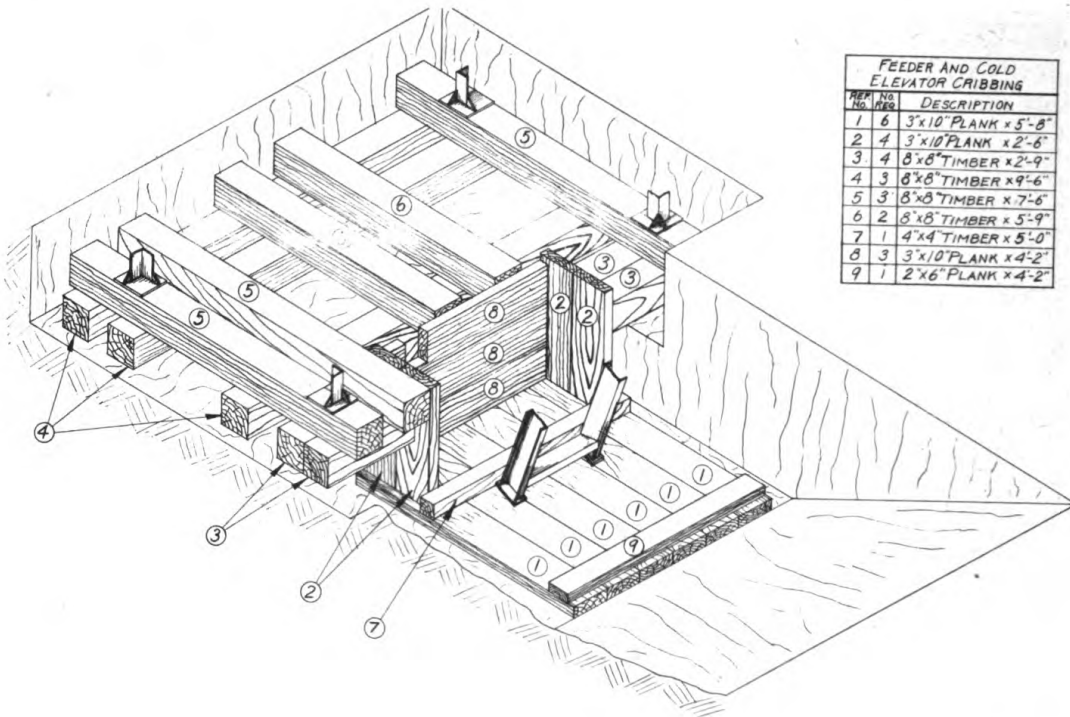
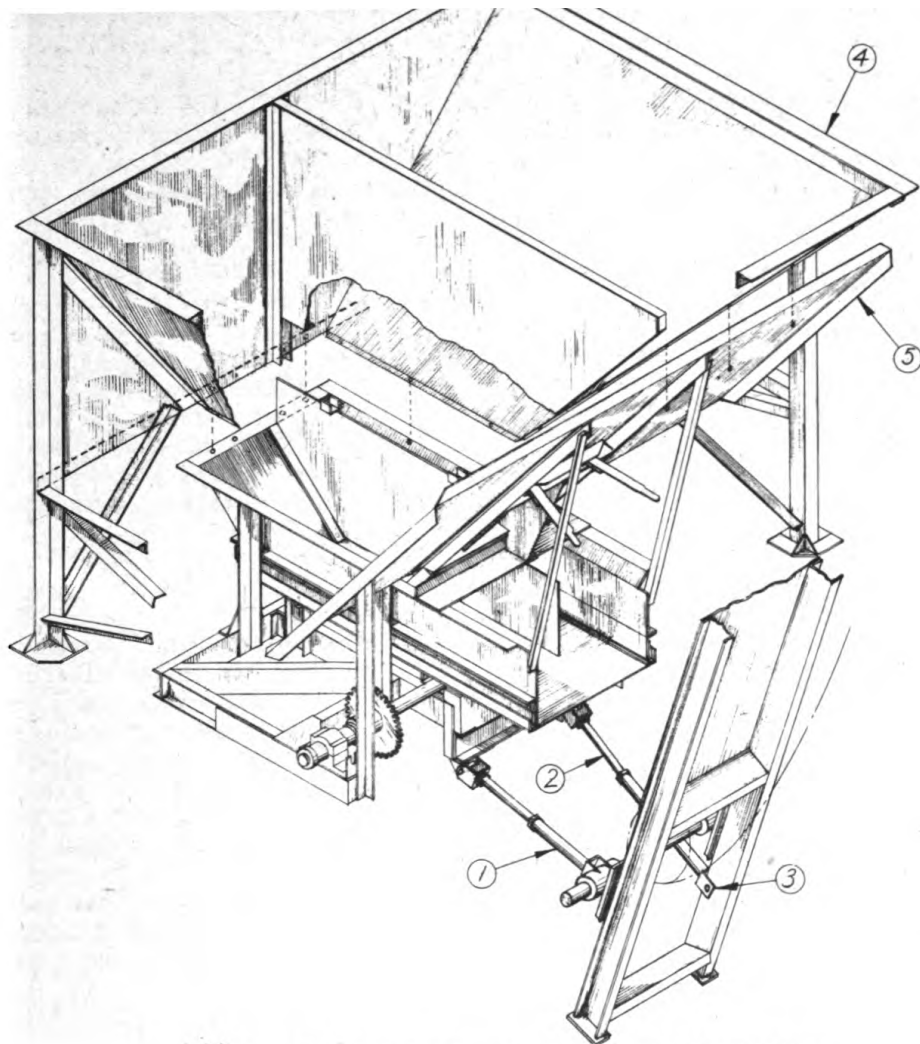

FIG. 47 - BLOCKING FOR RECIPROCATING FEEDER, COLD ELEVATOR AND FEEDER HOPPER.
FIG. 48 - POSITION OF RECIPROCATING FEEDER AND HOPPER IN RELATION TO THE COLD ELEVATOR.
When in operating position, the elevator foot end extends into a shallow pit. With the aid of the dimension shown in the Staking diagram in the Central Plant Book, lay out and excavate the pit to shape and depth shown. The pit should be dug before bringing the head and foot end sections of the elevator into position so that the sections will not interfere with the digging of the pit. Place the pit flooring as shown in the feeder and cold elevator cribbing diagram, Fig. 47.
Refer to feeder cribbing diagram, Fig. 47. Construct the cribbing as shown using the timber members as shown in the bill of material. Nail all pieces together to form a rigid structure.
Connect the feeder push arms (1) and (2) as shown in Fig. 48. The feeder end of push arm (1) has a clevis type end and connects to the feeder frame by a pin that extends through the clevis and bracket on the feeder frame. The cold elevator end of push arm (1) straddles the footshaft bearing at the drive sprocket end of the footshaft. Extend or shorten the push arm as necessary until all slack is removed between the elevator and the feeder, then tighten lock nut. Push arm (2) is installed in the same manner except that the elevator end of this push arm is also of the pin and clevis type and connects to the elevator frame (3) below the footshaft bearing on that side of the elevator.
The gate section (5) Fig. 48, of the feeder is adaptable to either the bulkhead or hopper setup. It is mounted as shown, in all cases except when dismantled for transporting. The hopper base (4) consists of a welded unit including three hopper sides, divider plate, support legs and bracing. When moved in position over the feeder, the gate section constitutes the fourth side of the hopper and the bottom of the hopper bolts to the top flange of the reciprocating feeder. When in position on the cribbing support, see Fig. 47, the hopper legs are located in position as shown.